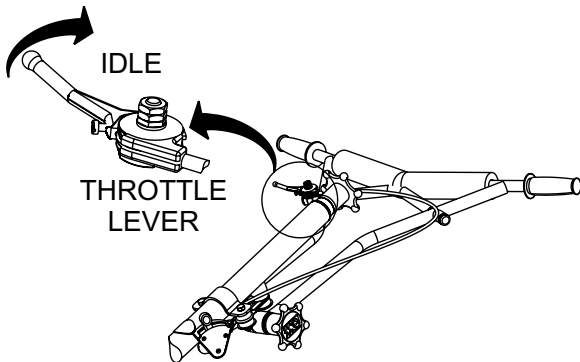

Figure 21. Throttle (Idle Position)
2. Pull the *throttle lever* (Figure 21) backwards and place in the "idle" position.